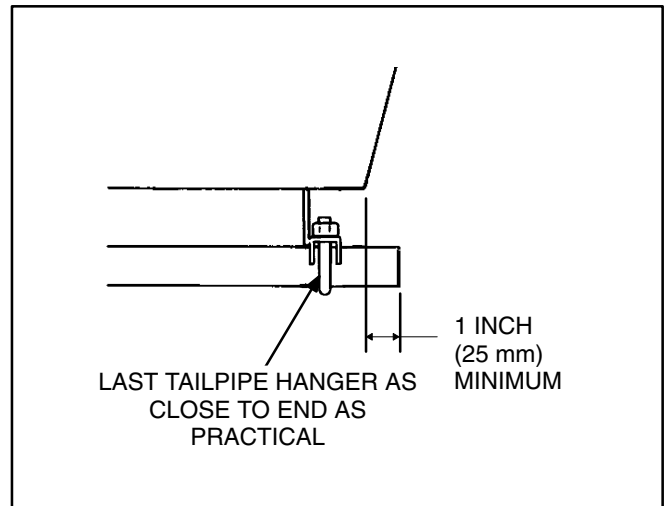

FIGURE 5. TERMINATING THE EXHAUST TAILPIPE
5. Do not terminate the tailpipe underneath the vehicle. Extend it a minimum of 1 inch (25 mm) beyond the perimeter of the vehicle (Figure 5). Support the end of the tailpipe such that it cannot be pushed inward and up under the skirt of the vehicle.